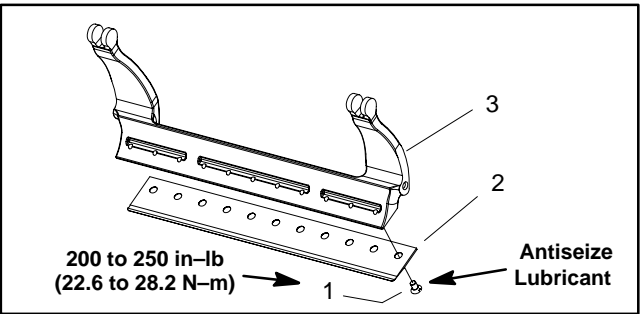

Figure 17
2. Remove screws that fasten bedknife to bedbar using a socket wrench and bedknife screw tool (see Special Tools). Discard screws. Remove bedknife from bedbar (Fig. 17).